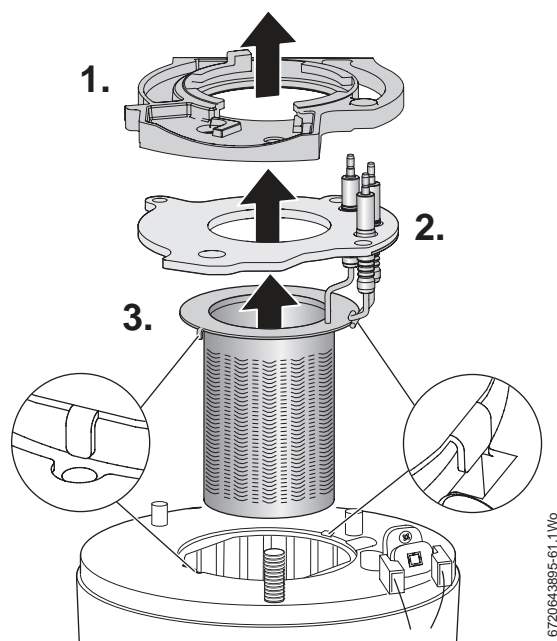

Fig. 95 Electrode assembly and burner
Refer to figure 95.
- ▶ Ensure that burner tabs, as shown in figure 95, fit correctly their respective locations.